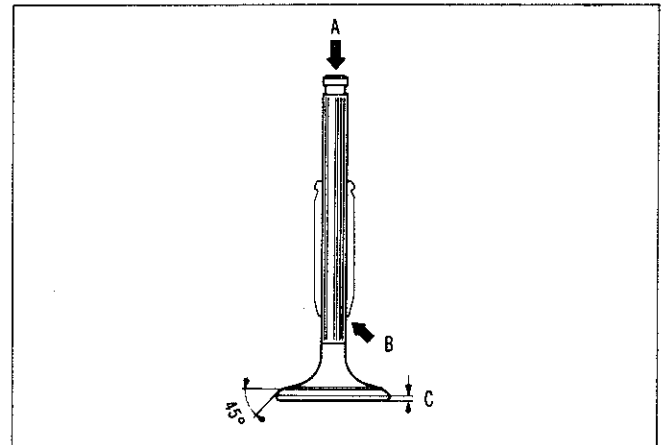

Fig. 29—Valve check points
Check each valve for wear, damage and deformation of the head and stem (B), Refer Fig. 29.